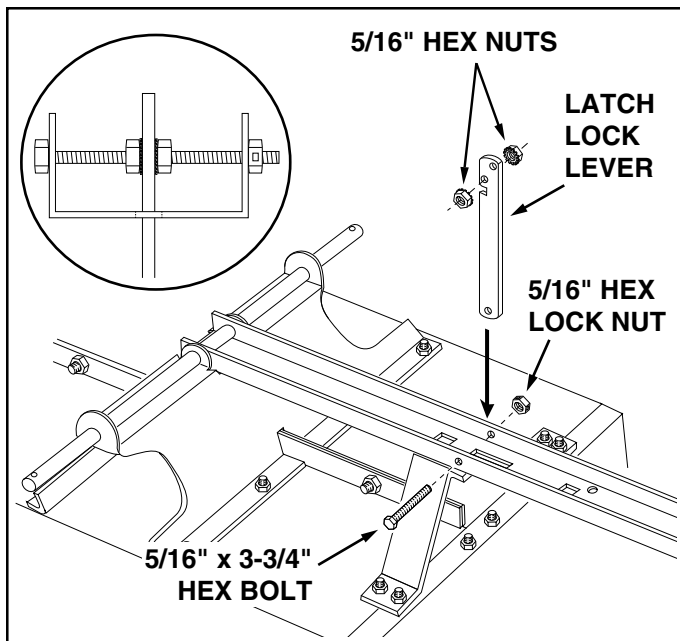

FIGURE 10
15. Place the latch lock lever through the slot in the draw bar tongue as shown in figure 10. Assemble the 5/16" x 3-3/4" hex bolt through the tongue, the lever and two 5/16" hex nuts (one on each side of the lever). Assemble the 5/16" hex **lock** nut onto the end of the bolt and **tighten** so that the bolt can still rotate freely. **Tighten** the two 5/16" hex nuts against the sides of the latch lock lever so that the lever is centered in the slot. See figure 10.